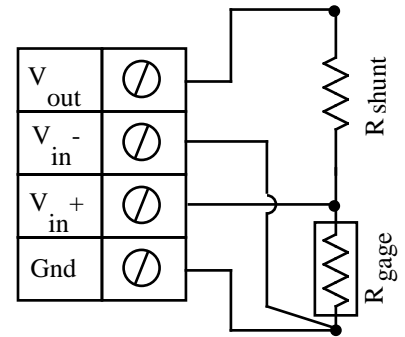

Fig 3.6- Strain Gage Measurement - Voltage Divider Circuit
8. Wire your strain gage per figure 3.6, and refer to the steps at the beginning of this chapter for more information on how to set up your sensor.^{5,10}